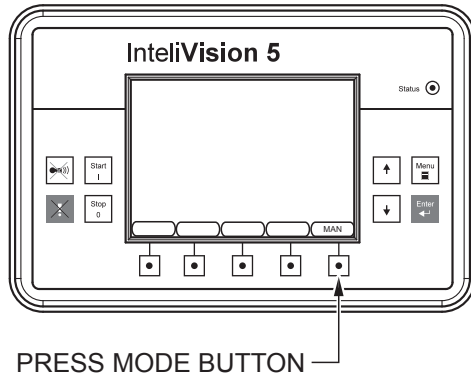

Figure 25. Mode Button (Manual)
6. Press the **MODE** button (Figure 25) on the Digital Controller Display and select manual mode (MAN) with the arrow keys. Press **ENTER** key when MAN is highlighted on the screen.